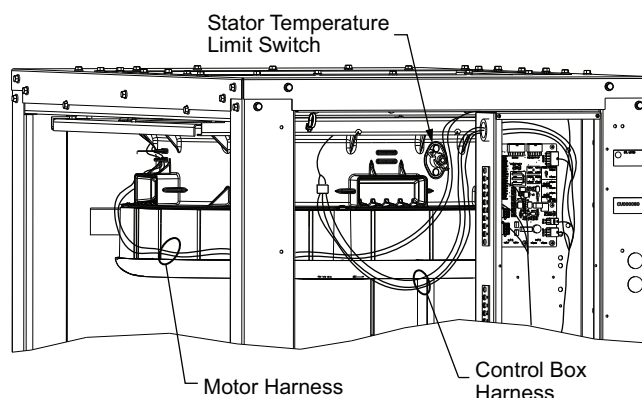

Fig. 25 — Locations of Motor Harness and Stator Temperature Limit Switch
1. Unplug motor harness from control box harness. See Fig. 25.
2. Unplug connectors from stator temperature limit switch. See Fig. 25.